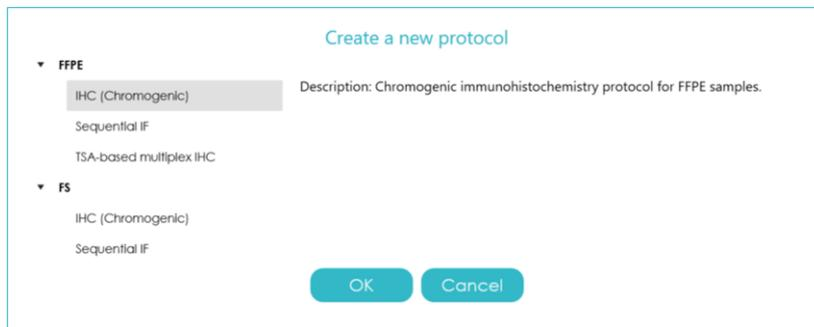

Figure 22) "Create a new protocol" window
1. Click "Add new" above the protocol list. The "Create a new protocol" window (Figure 22) will open.